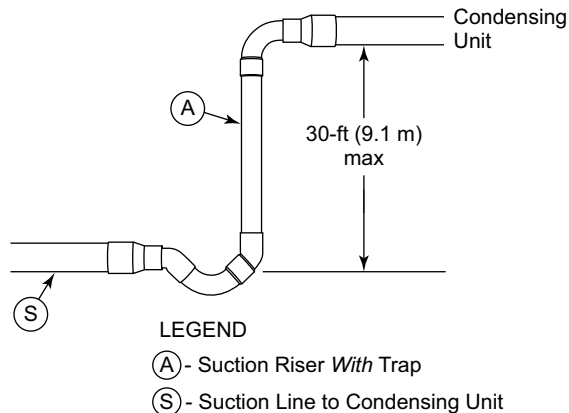

Fig. 6 — Suction Line Piping — Speed Riser
- b. See Fig. 6 for speed riser diagram.
See Fig. 6 for speed riser reference, where tube S is the horizontal line size and tube A is the reduced diameter riser size.